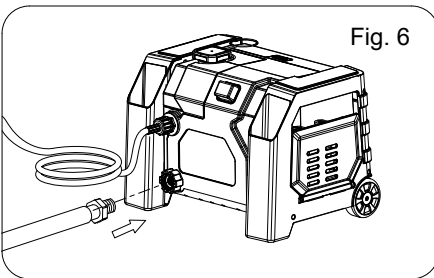

Fig. 6
5. Connect garden hose (Fig. 6)